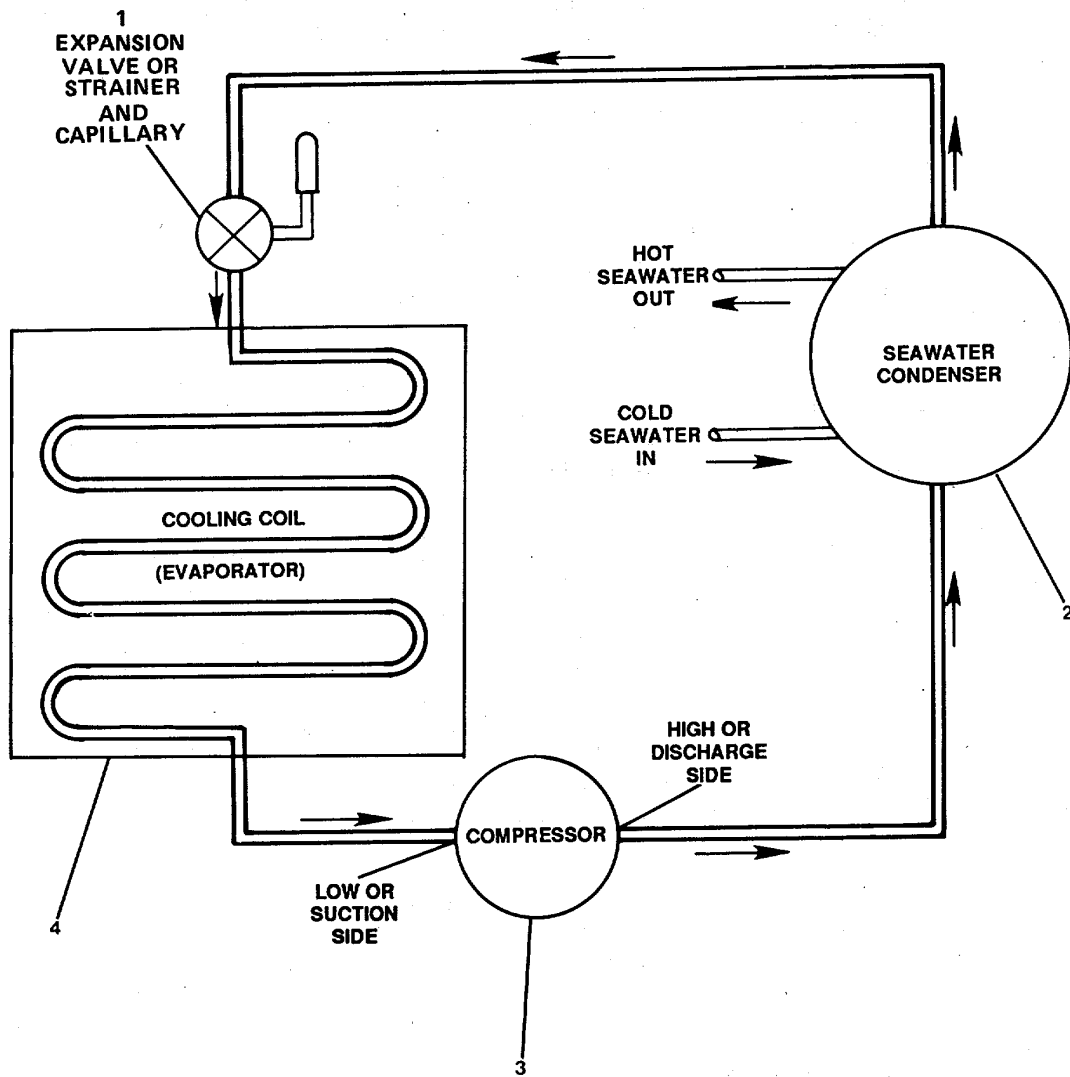

Figure 1-3. *Interface of Major Components in the Cooling (Air Conditioner) Cycle .*
- 1-16. Cooling Cycle and Major Components.** The major components in an air conditioning cooling cycle are the cooling coil, the compressor, the condenser, and the expansion valve (or a capillary tube assembly in self-contained units). FIGURE 1-3 shows the interface of these components in the basic cooling cycle. FIGURE 1-3 is a simplified typical arrangement showing major components only.
- (1) As cold refrigerant liquid moves through the cooling coil (4, FIGURE 1-3), it picks up heat from the air passing over the surface of the coil. As it picks up heat, the refrigerant changes to a vapor.
- (2) The heated refrigerant vapor is then drawn into the compressor (3) where it is put under high pressure. This causes the temperature of the vapor to increase.
- 3) Next, the high pressure, high temperature vapor passes to a seawater cooled condenser (2) where heat is removed from the refrigerant. As the condenser removes heat, the vapor changes to a liquid but is still under pressure.
- (4) The liquid refrigerant then flows to the expansion valve (1) (or capillary assembly). As the liquid flows through the valve (or capillary), pressure is reduced instantaneously. This action lowers the temperature of the liquid still further so that it is now ready to pick up more heat.
- (5) The cold, low pressure liquid refrigerant then flows into the cooling coil (4). The pressure in the cooling coil is low enough to allow the refrigerant to vaporize as it again absorbs heat from the air passing over the coil surface. The cycle begins to repeat itself as the heated refrigerant vapor is again drawn into the compressor (3).